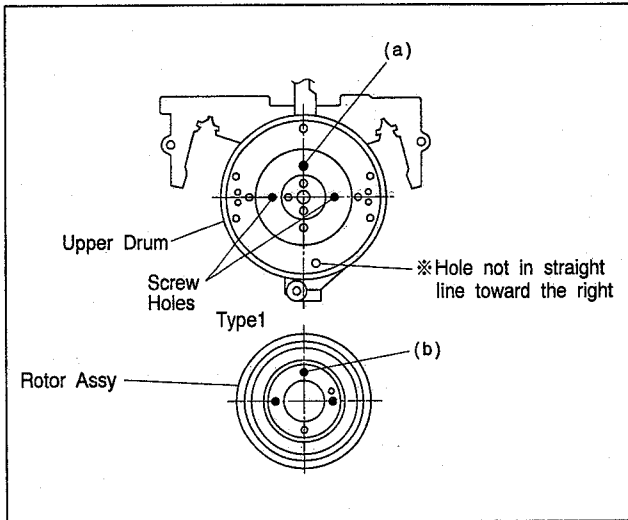

Fig. 2-5-24
- (3) Align the upper drum assy and rotor assy phase as indicated in Fig.2-5-24.